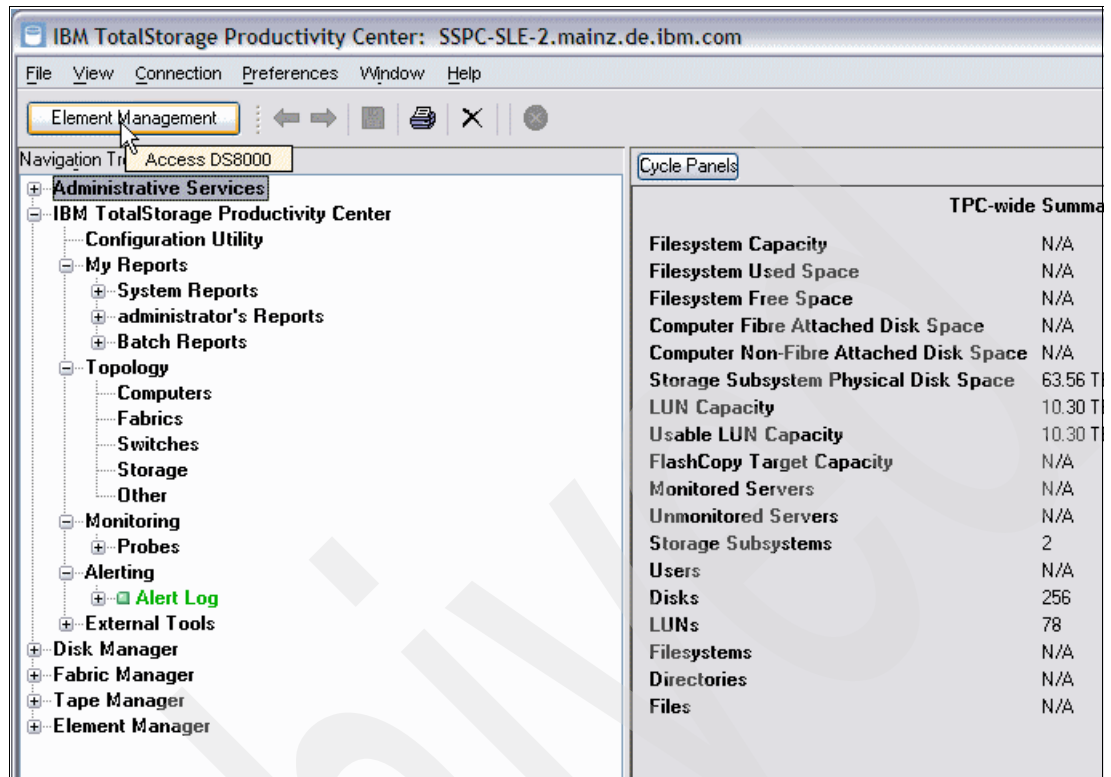

Figure 9-3 TPC GUI Enterprise Management window
- Click **Element Management** to get a list of element managers from DS8000 machines administrated by the SSPC as shown in Figure 9-3.